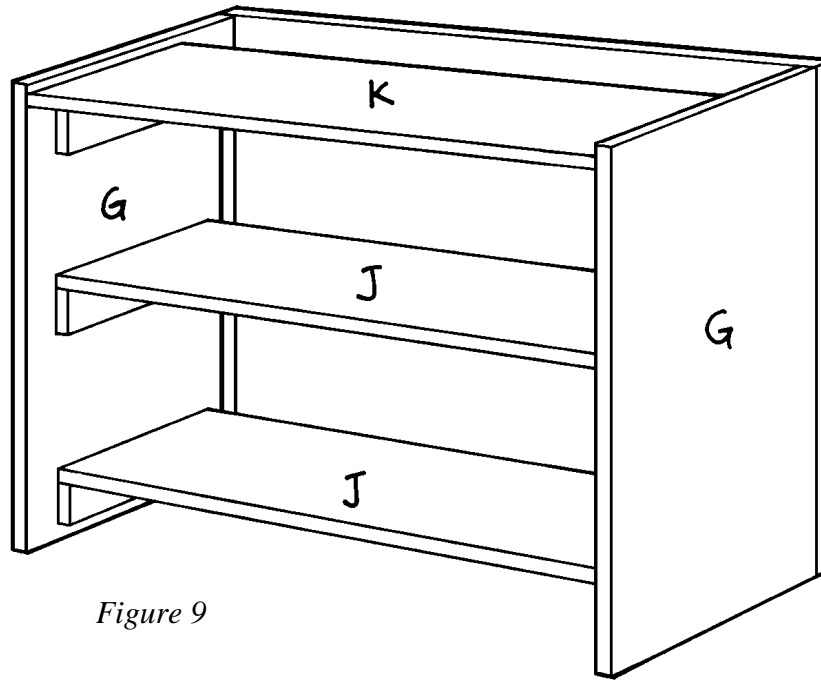

Figure 9
4. Cut one 36"-long top (K) from 1 x 12 pine.
5. Cut one 34"-long top support (L) from 1 x 4 pine. Set this piece aside; you'll add it to the top (K) during final assembly.
6. Attach the top (K) over the top inner supports (I), between the two sides (G) and flush with their front edges (see *Figure 9*).